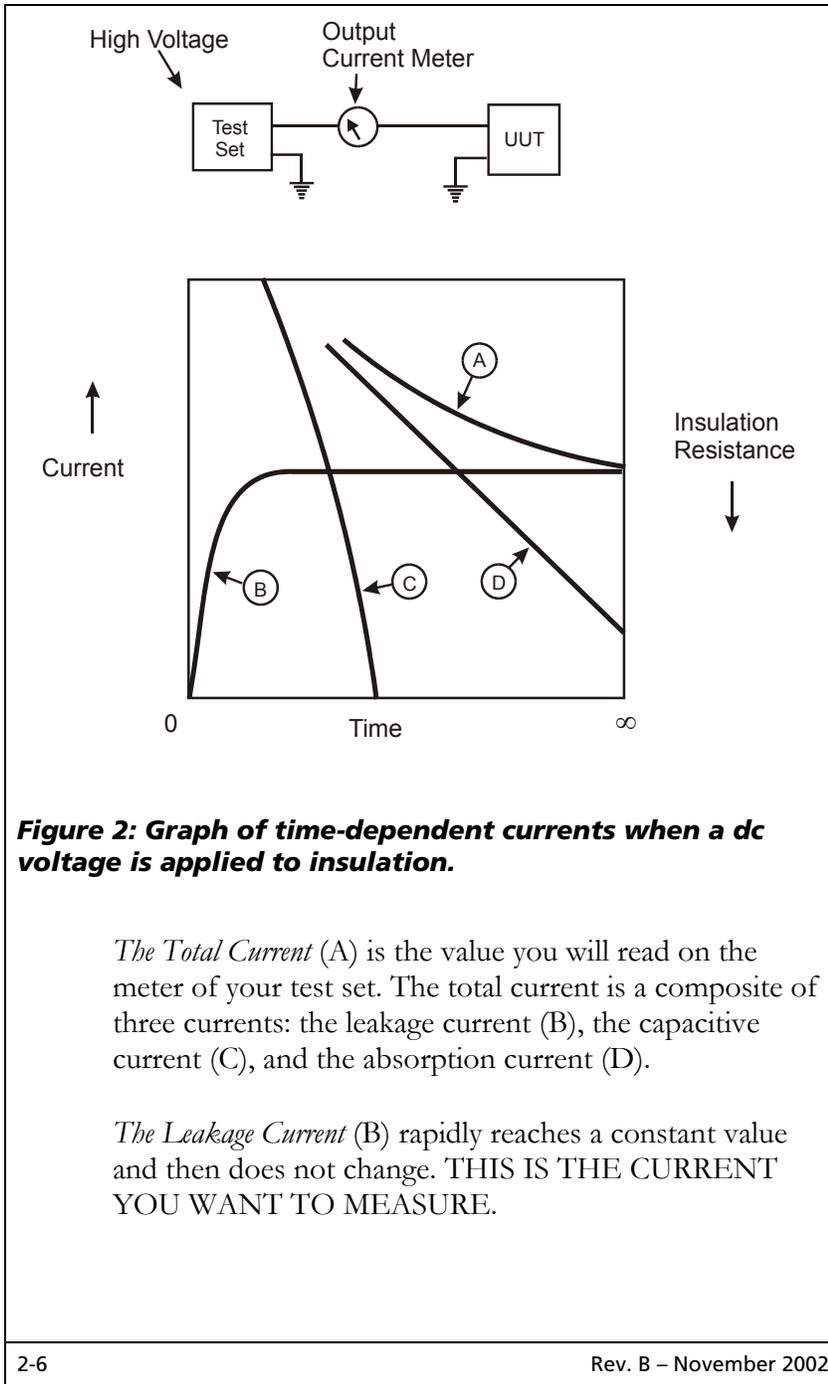

Figure 2: Graph of time-dependent currents when a dc voltage is applied to insulation.
Please refer to Figure 2.
After testing, always leave the UUT short-circuited for 5 to 10 times as long as the test voltage was applied. The absorption current (current (D) in Figure 2) is reversible. The energy absorbed when the current is applied is stored in the dielectric. It will cause a voltage to appear across the UUT after it has been disconnected from the high voltage, even if short-circuited for a time.